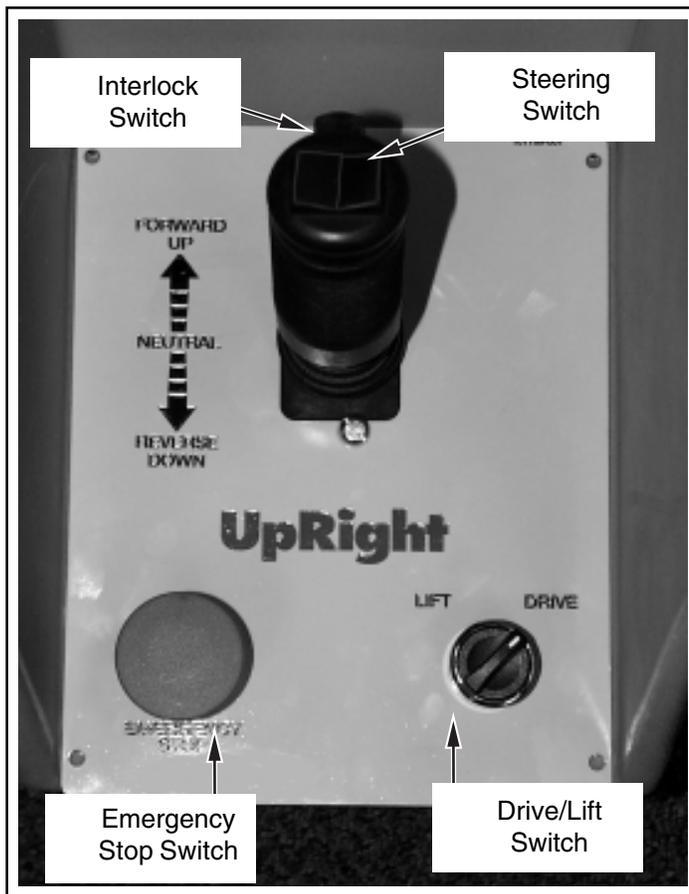

Figure 2-5: Proportional Controller
19. **PROPORTIONAL CONTROLLER** (Figure 2-5)
7. **PROPORTIONAL CONTROLLER** (Figure 2-5)